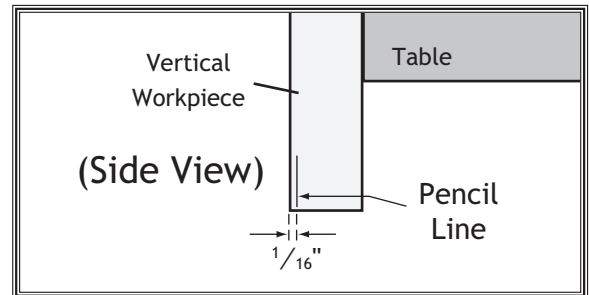

Figure 35. Pencil line location on vertical workpiece.
2. Draw a small pencil line on the edge of the vertical workpiece approximately $\frac{1}{16}$ " from the side of the workpiece (see Figure 35).
3. Install the vertical workpiece so the side of the board closest to the pencil line is facing out, as shown in Figure 35, and clamp the workpiece into position against the vertical fence.